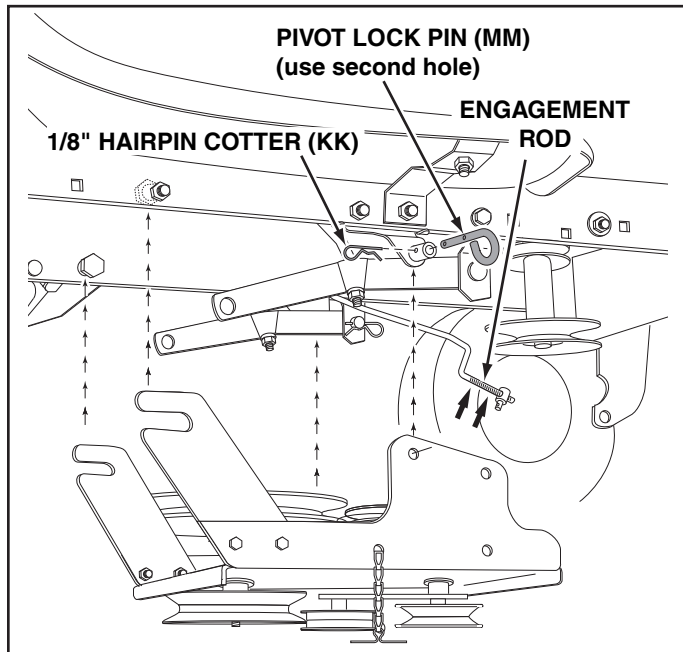

FIGURE 32 RIGHT SIDE VIEW
STEP 32: (SEE FIGURE 32)
- Attach the clutch/idler assembly to the tractor frame as follows. Hook the assembly's notched arms onto the two shoulder bolts you assembled to the inside of the tractor frame. Lift the front of the assembly and attach it to the R.H. and L.H. hanger brackets using two pivot lock pins (MM) and 1/8" hairpin cotters (KK).